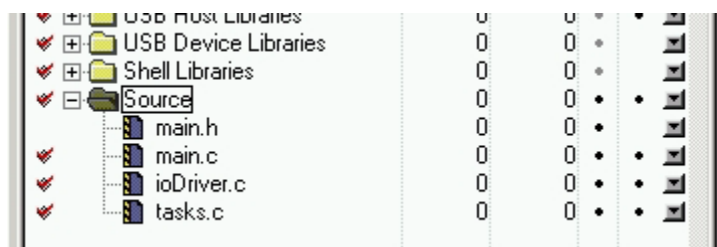

Figure 4. Adding tasks.c to Project Directory Structure
3. In the project directory structure, search for the ‘Source’ folder. Right click and select “Add Files” and add the ‘tasks.c.’ When prompted with a pop up for “Add files to targets,” use the default of all targets and click OK. After adding the file, the structure directory must look like Figure 4.